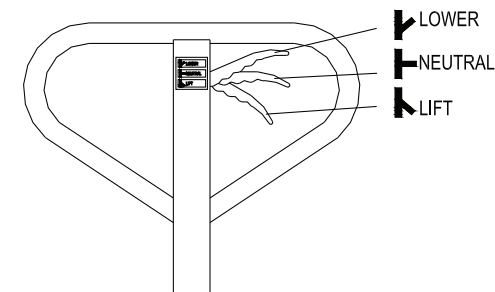

Fig.3
On the Handle Tube (1) of this pallet truck, you can find the Control Lever (5), which can be regulated in three positions (See Fig. 3):
- LOWER** - Pull the Control Lever (5) up and the forks / load will lower to the desired height. The Control Lever (5) will move back the NEUTRAL position when released.
- NEUTRAL** - When the Control Lever (5) is in the middle position the forks will not move when the Handle Tube (1) is pumped. The Control Lever (5) must be in the neutral position when the truck is driven.
- LIFT** - Push the Control Lever (5) down and pump the Handle Tube (1) to raise the forks / load to the desired height.